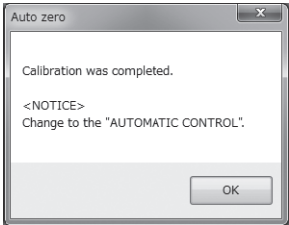

Fig.140
- ⑤ Click "OK" to execute the zero point adjustment, then click "OK" again in the message box (Fig. 140) displayed when adjustment is complete to exit automatic zero point adjustment. The results are displayed as shown in Fig. 142.